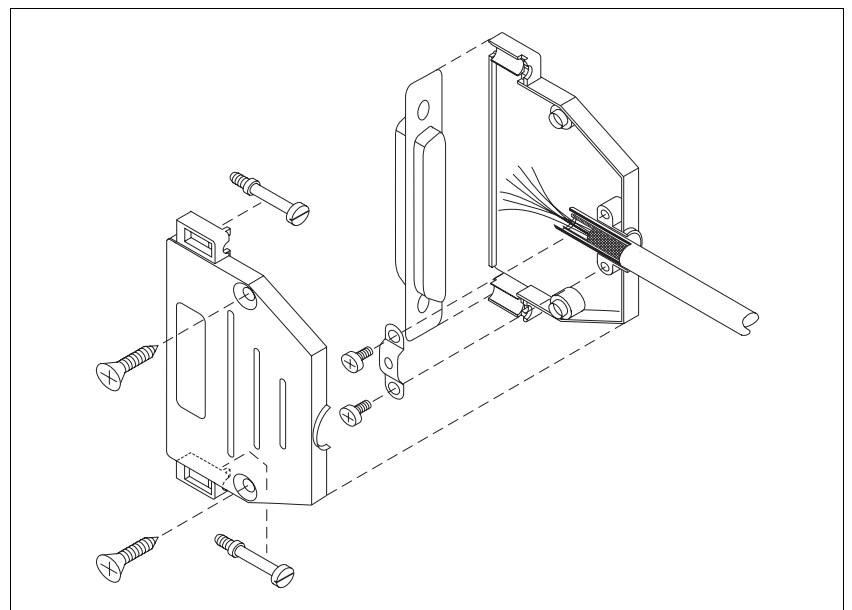

Fig. 2-7 Signal connector assembly – device end
3. Insert two bolts (fig. 2-7) into the connector shell.